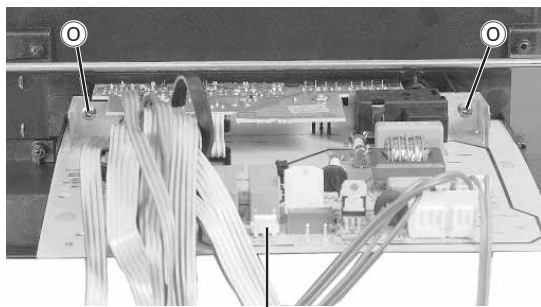

Fig. 17
- Remove the control unit together with the socket board after undoing the 2 screws (O) (Fig. 17).
- Connect the power supply lead from the power supply board of the DVD plug-in unit (socket "0101") with the ST-NETZ2 connector (Fig. 17, 18) on the control unit and fit the control unit together with the socket board.